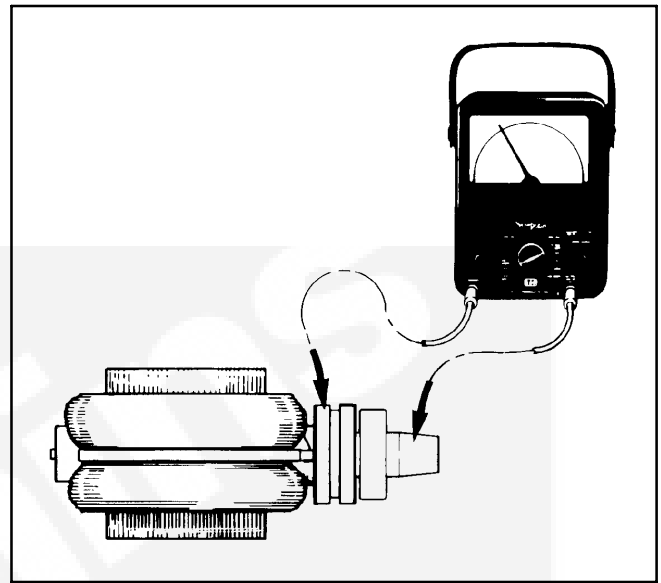

FIGURE 9-4. GROUNDED ROTOR TEST
**Test for Grounded Windings:** Use the highest ohmmeter scale if not using a megger. Touch one test prod to the rotor shaft and hold it there. Touch the other test prod to one of the slip rings as shown in Figure 9-4. A resistance of less than 1 megohm indicates a grounded winding. Replace a grounded rotor with a new rotor.